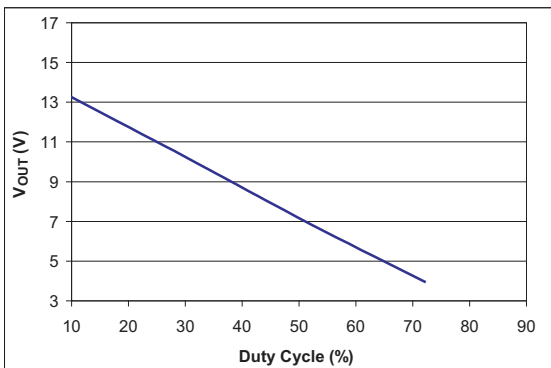
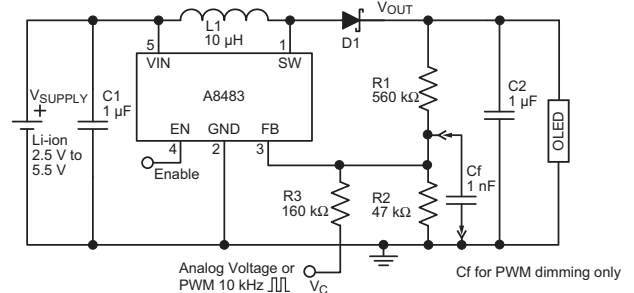

Figure 9. PWM Dimming Control of Duty Cycle. Performance of 5 V input circuit shown in figure 3.
Figure 11. OLED Bias Supply. Use for low-noise PWM dimming, or with analog voltage through the FB pin.
- Adjust the duty cycle of the pulse train applied to the FB pin through resistor R3, as shown in figure 11. Capacitor Cf is used to generate the average voltage level. Variation of output voltage with PWM duty cycle is shown in figure 9.